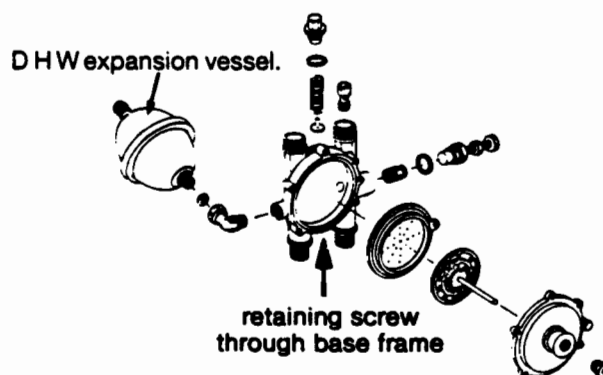

Fig. 42
see fig 42
Remove manifold (figs 42 & 53 or 54 give details of further disassembly).
8.18 Removal of DHW Expansion Vessel (fig 42)